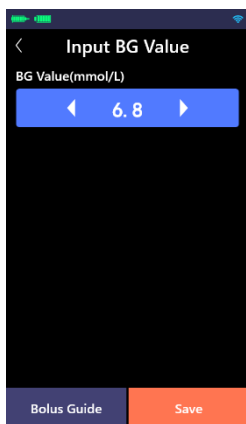

Figure 15.7
(1) Click “More” – “Input BG Value” at the bottom of the main interface to open the input BG value interface (as shown in Figure 15.7), then record the measured BG value through “◀”, “▶”. Click “Save”, the bolus guide function will be activated.